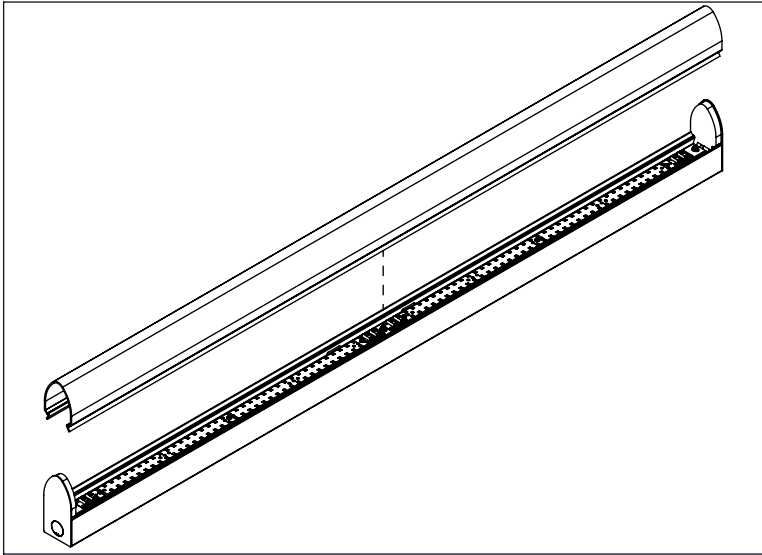

Figure 1
1. Gently squeeze lens walls together to remove lens from fixture (Fig. 1).